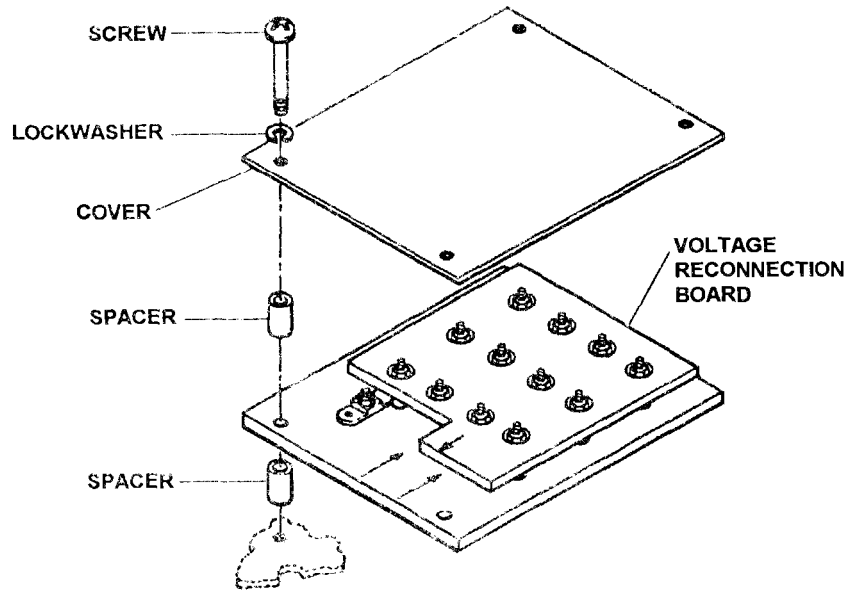

Figure 4-45. Voltage Rconnection Board, Removal and Installation
- (1) Remove screws and lockwashers to remove voltage reconnection board and spacers.
- (2) Tag and disconnect electrical leads to voltage reconnection board assembly (Figure 4-45).
- (1) Install voltage reconnection board (Figure 4-45), spacers, lockwashers, and screws.
- (2) Connect electrical leads to voltage reconnection board assembly.